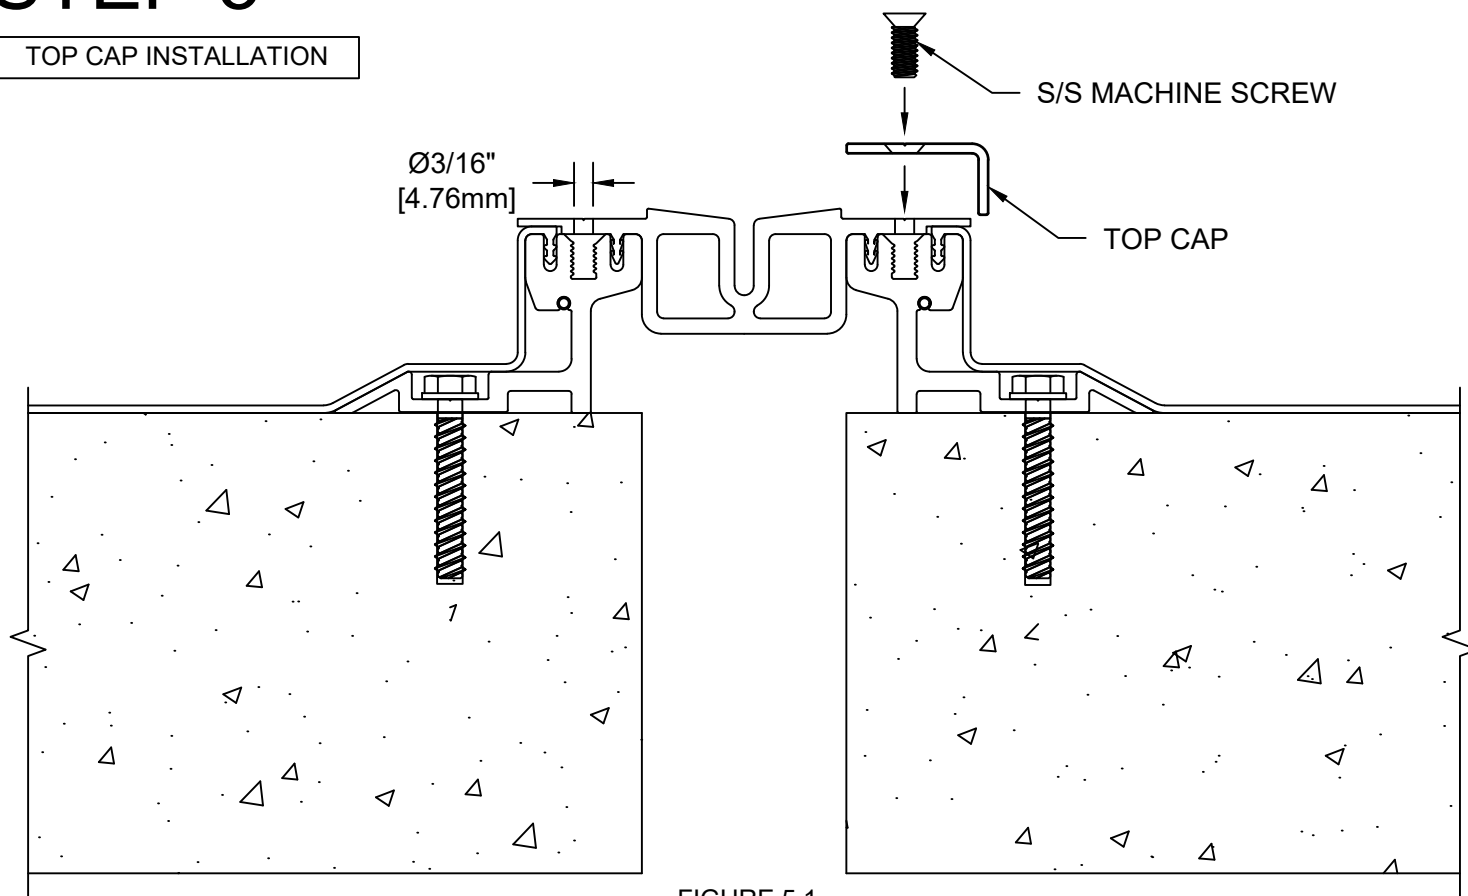

FIGURE 5.1
- 5.3) Temporarily remove the Top Cap from the assembly and create $\text{Ø}\frac{3}{16}$ " [Ø4.8mm] clearance holes for the CS Supplied Stainless Steel Machine Screws. (See Figure 5.1)
- 5.4) Reposition the Top Cap on the system and fasten with the CS Supplied Machine Screws. Before tightening screws completely apply a silicone caulk (by others) between the head of the CS Supplied Machine Screws and the countersunk holes in the Top Caps. Be sure to keep the supplied Machine Screws as straight as possible when installing. Failure to do so could result in cross-threading, which will impair the system. (See Figure 5.1)